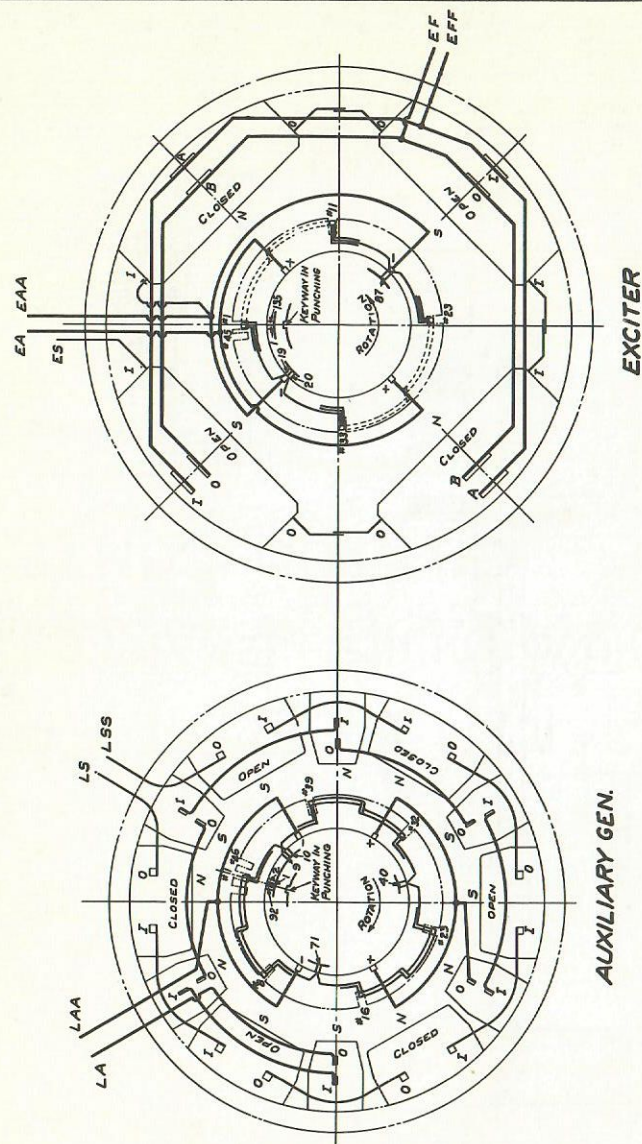

Fig. 5-11
1. Install coil and pole assembly in frame and secure with pole-piece bolts and new lock washers. Note that exciting coils are open and closed type, assembled alternately in frame. Be sure to assemble in accordance with Connection Diagram (see Fig. 5-11). Install shims exactly as removed.